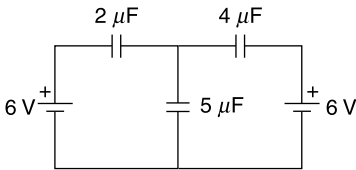

Fig. 2.40 Capacitor configuration in Ex. 2.28
2.28 Figure 2.40 shows a set of capacitor configurations. Find charges on the three capacitors.